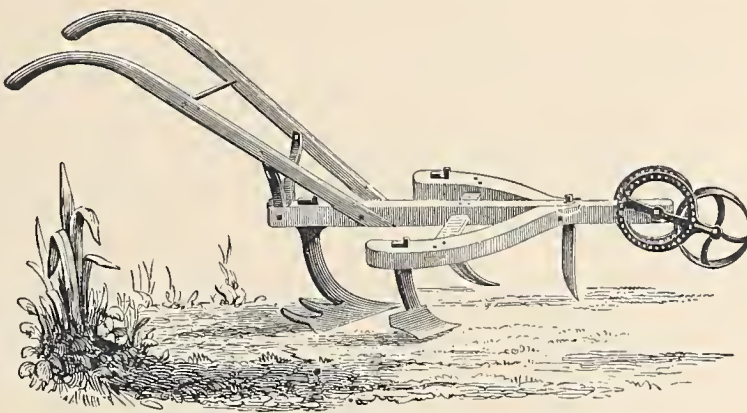

Fig. 361. — Knox Horse-Hoe.
*The Knox Horse-Hoe*, represented by *Fig. 361*, designed for the hoeing or cultivation of corn, the various root-crops, cotton, hops, young nurseries, and broad